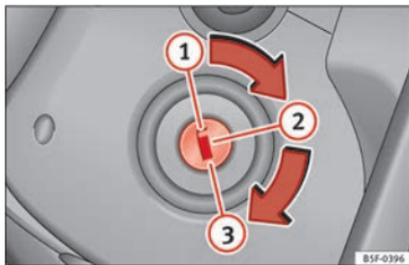

Fig. 156 Ignition key positions.
In this position » Fig. 156, the ignition and the engine are OFF and the steering may be locked.
- Turn the ignition key to position **»» Fig. 156 ②**. The warning lamp  will light for engine pre-heating.
- When the lamp turns off, turn the ignition key to position **③** to start the engine. Do not press the accelerator.
- Turn the ignition key to position  **Fig. 156** .